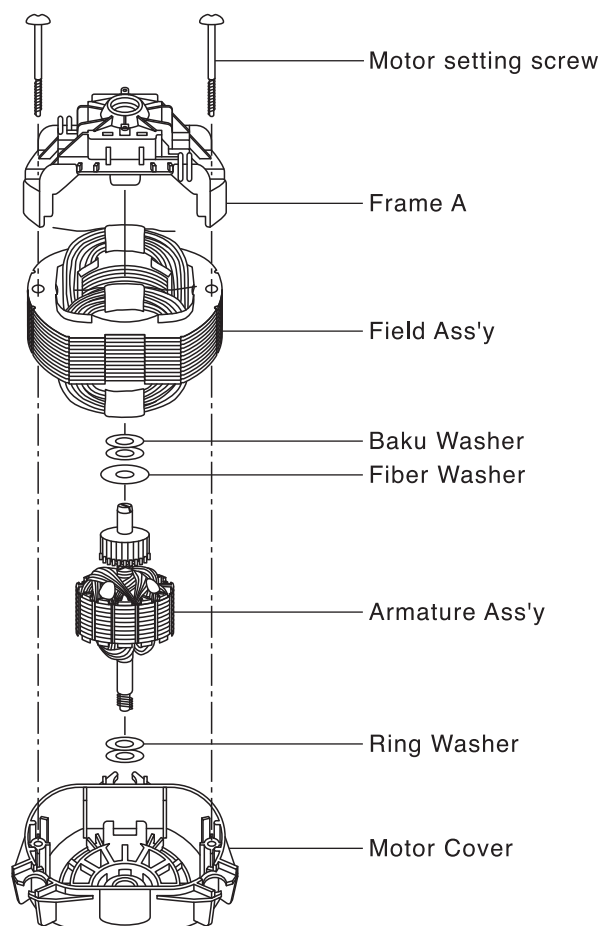

Fig. 6
5.6. Reassembly of Motor Cover,Frame A,Armature Ass'y and Field Ass'y -Fig.6, 7